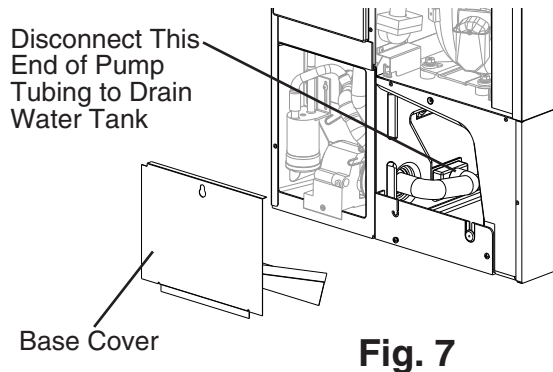

Fig. 7
- 5) Remove the base cover, then disconnect one end of the pump tubing to drain the water tank. See Fig. 7. After the water tank has drained, reconnect the pump tubing.